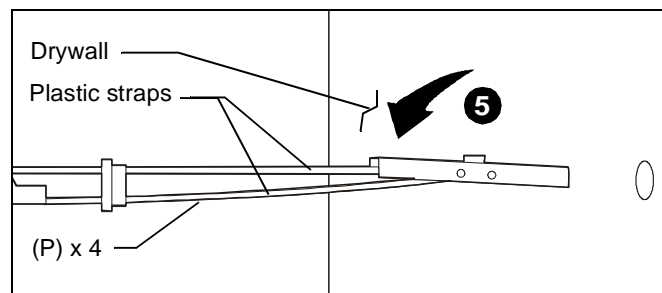

Figure 9
5. Hold metal channel on anchor (P) flat alongside plastic straps and slide channel through hole. (See Figure 9)